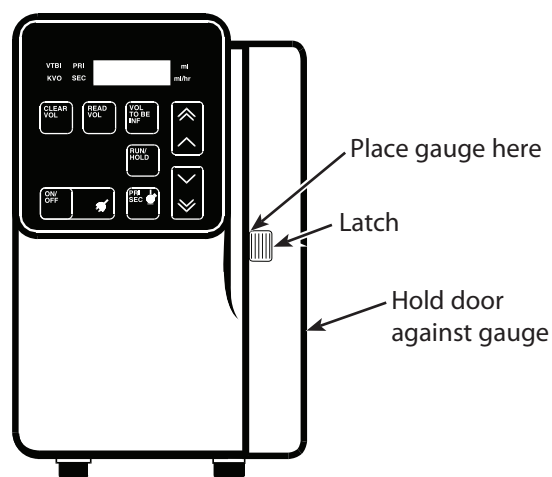

Figure 2-5 Door Calibration
3. Open the door and rest a 0.125" (3.175mm) pin gauge on top of the door latch. See Figure 2-5. Close the door and hold it closed at the location across from the latch.